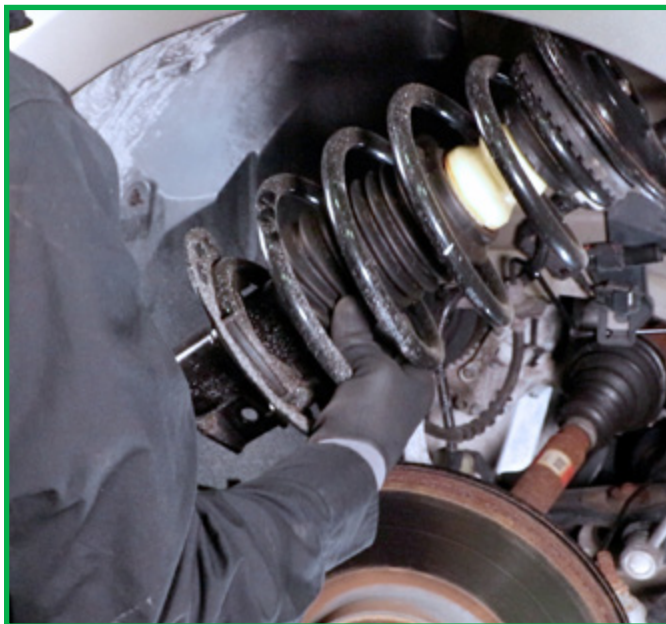

FIGURE 15
9. Remove old strut from the vehicle. (Figure 15)